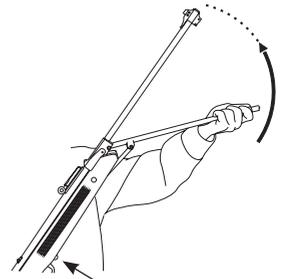

Fig. 8
- Press the cocking lever safety button and bring under lever cocking arm to its fully closed position. (Fig. 8 )